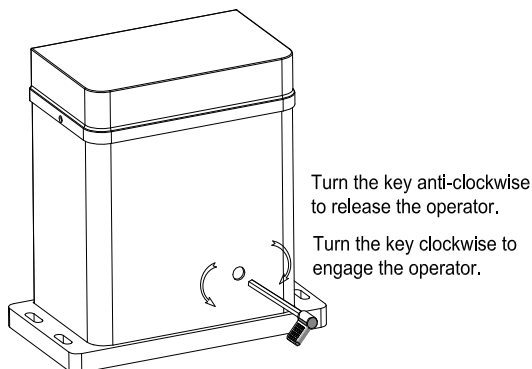

Fig.4
- Turn the key 6-8 circles anticlockwise see Fig.4.
- Turn the key 6-8 circles clockwise to engage the gate operator.